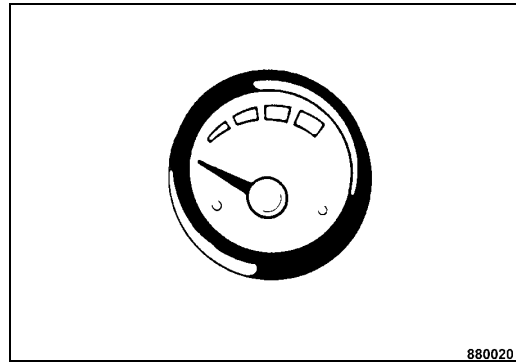

Fig. 126
- Check the water tank filling level on the water level gauge (Fig. 126).